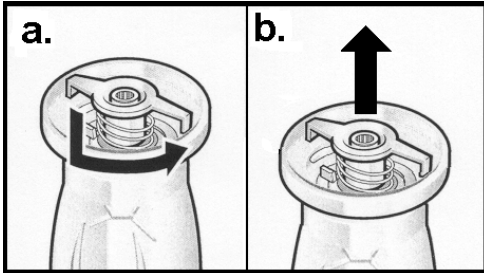

Figure 10.
1. Before using the blender for the first time, it is recommended that the blender jar cover, closure/funnel and blade assembly be washed. All components, except the blade assembly, are dishwasher safe. Remove the blade assembly from the blender, see figure 10.